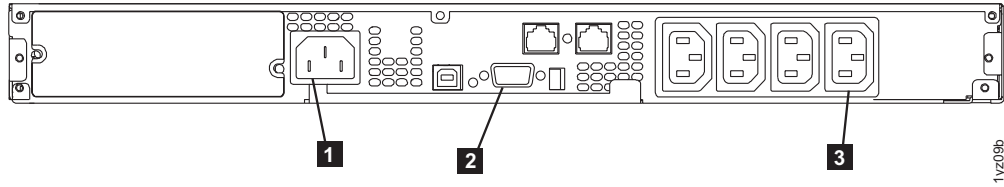

Figure 70. 2145-1U uninterruptible power supply (rear view)
7. At the back of the 2145-1U uninterruptible power supply, plug the 2145-1U uninterruptible power supply main power connector into the power socket (1 in Figure 70 on page 84). The 2145-1U uninterruptible power supply is in standby mode, so all indicators are off.